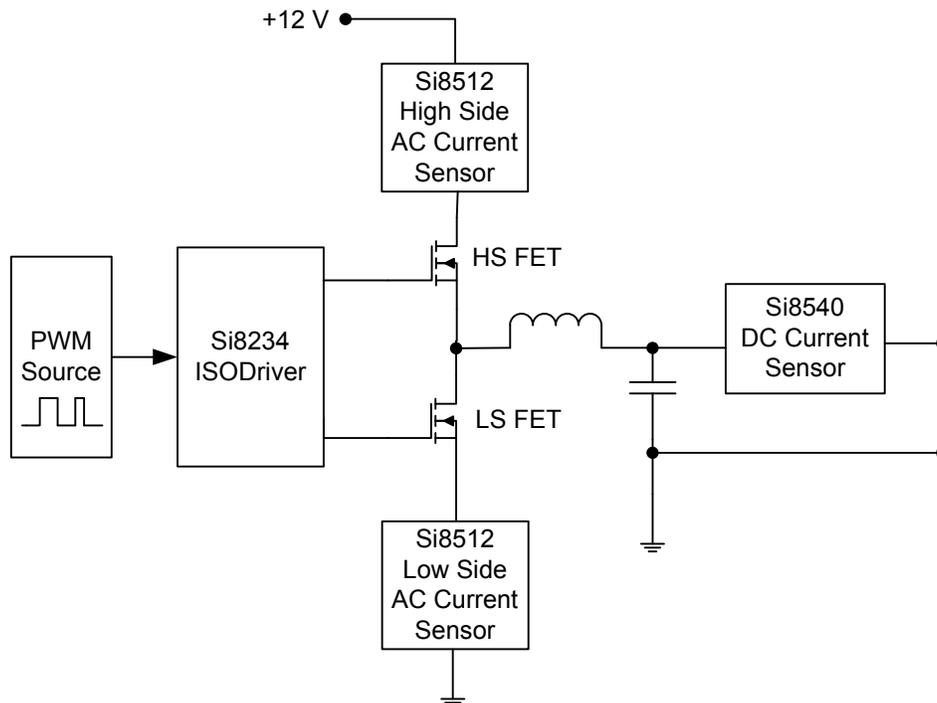
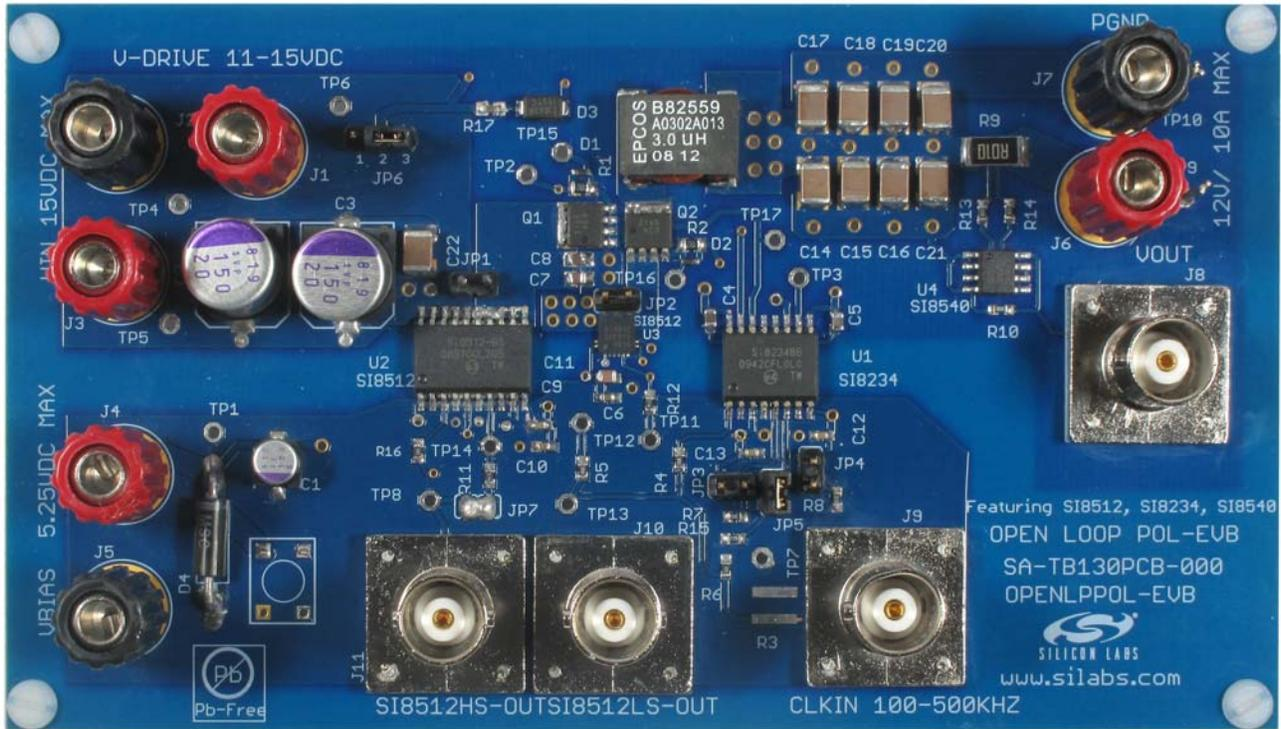

Figure 1. Open Loop POL High-Level Schematic
Figure 2. Open Loop POL Evaluation Board
The Open Loop POL Evaluation Board implements a single-phase POL (an architecture similar to that found in switch-mode power supplies, motor control, inverters, and ballast lighting) whose switching frequency can be varied from 100 to 500 kHz. Its duty cycle can be varied from 20 percent to 80 percent. Figure 1 illustrates a high-level schematic overview. This variability provides a convenient means to fully evaluate the various products featured on the board. The Open Loop POL evaluation board shown in Figure 2 uses Silicon Laboratories' Si8234 ISODriver to drive the high-side and low-side FETs. It uses two Si8512 ac current sensors to monitor the switching currents in the high-side and low-side FETs respectively. The board also uses the Si8540 dc current sensor to monitor the dc current being delivered to the load. Refer to the Si85xx, Si823x, and Si854x family data sheets for more information concerning their operation.
1. See Figure 1.